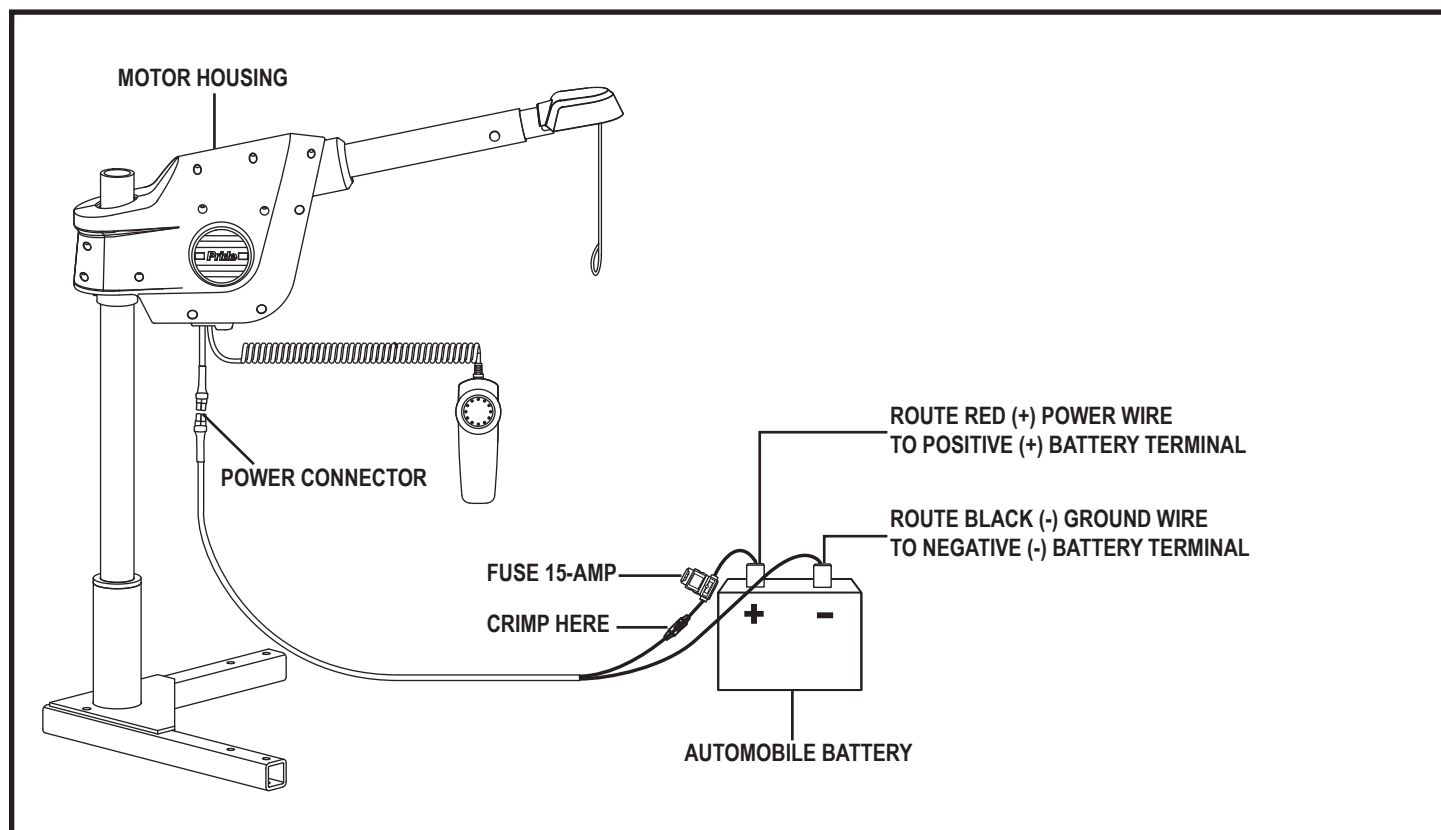

Figure 15. Electrical Wiring Connections (Trunk Mount Shown)
1. Route the lift's long power wire (starting at the lift) through the interior of the vehicle until you reach the automobile battery. **See figure 15.** Conceal the wire behind or under the interior panels (there should be existing holes). Be certain that the wire is protected with a rubber grommet when passing it through the metal panels and into the engine compartment. Inside the engine compartment, secure the wire to the firewall and the inner fender with the supplied plastic wire ties. Use care not to cause abrasions to the power wire. It is important to secure the power wire at various points along its run.
NOTE: If installed in a trunk, disconnect the power connector (see figure 15) and remove the motor housing and upper post and place it in an area where it will be secure. The height of the boom-arm will not allow the trunk to close.